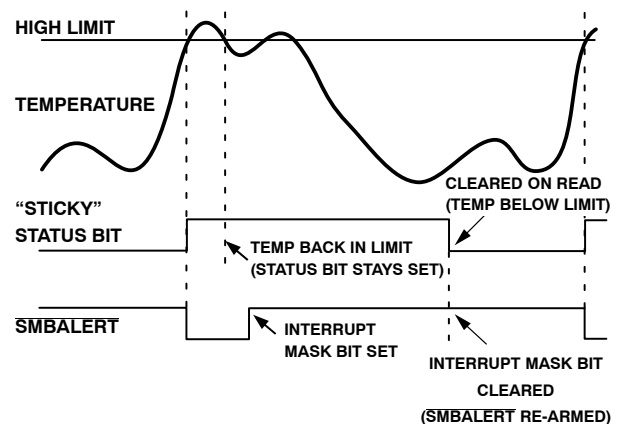

Figure 31. How Masking the Interrupt Source Affects SMBALERT Output
7. Periodically poll the status registers. If the interrupt status bit has cleared, reset the corresponding interrupt mask bit to 0. This causes the SMBALERT output and status bits to behave as shown in Figure 31.